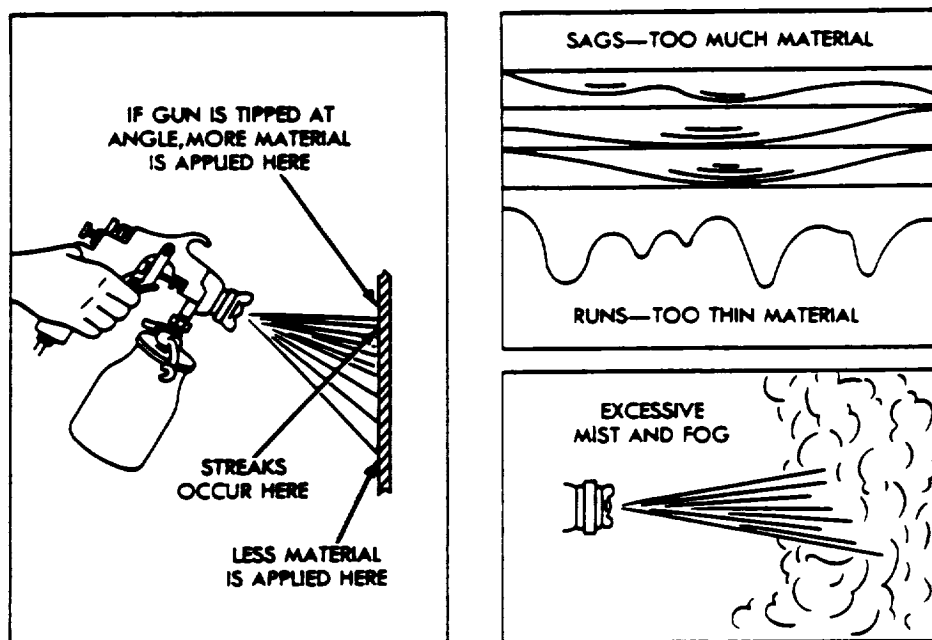

Figure 5-9. Spray Painting Faults
- (1) Tipping the gun, thereby causing one side of the pattern to deposit more material than the other. See figure 5-9.
- (2) An improper spraying pattern.